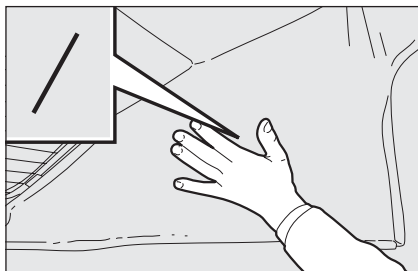

fig. 74
- ❑ close the bow by pressing on the levers from inside the passenger compartment **fig. 74** (right and left) so that they exceed the dead point that locks the bow, making sure to push upwards in the point marked with the symbol / located on the internal lining of the top.